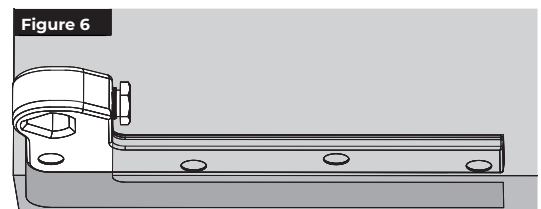

Figure 6
2. Install bottom arm into door using four (4) 1/4-20 x 5/8" FHMS or #14 x 2" FHWS screws provided. (Figure 6)